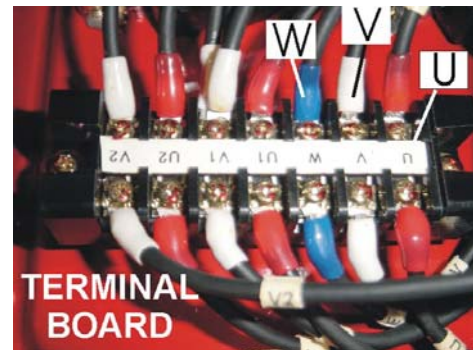

Figure 6. Terminal Board Connections
8. Route and connect the **RED** wire on the capacitor module to the **U** position (contact) on the terminal board as shown in Figure 6. Connect the **WHITE** wire to the **V** position (contact) and connect the **BLUE** wire to the **W** position (contact) on the terminal board. Use Tie-wraps to secure all wires.